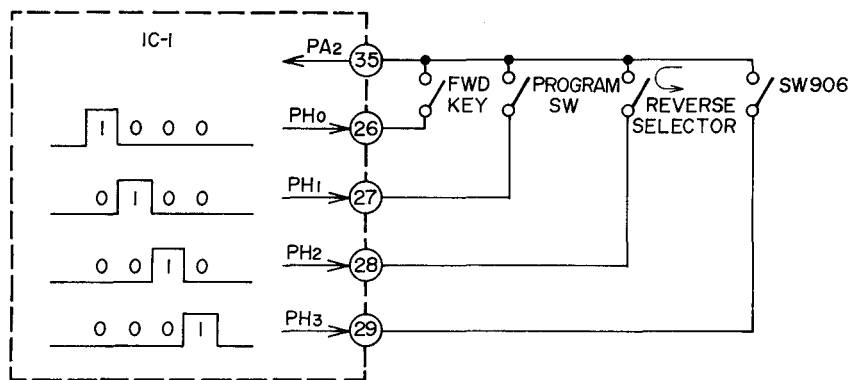

Fig. 14
If any input is made into (35), it is processed within the microcomputer depending on the signal and the signal is outputted from the respective terminal. If 1000 is inputted into (35), it is judged as FWD and the related signal is inputted to the output terminal. (See Fig. 14). Similarly, Signal 0100 from (27) passes the emitter and collector of TR86 and enters the Counter P.C Board. When the program SW (SW6) is pressed, Signal 0100 is inputted into IC1 (35). Signal 0010 from (28) passes the collector/emitter of TR87, and through D66 and the reverse selector SW (), it is inputted into IC1 (35). Signal 0001 from (29) passes SR1 and SW906 and is inputted into (35).